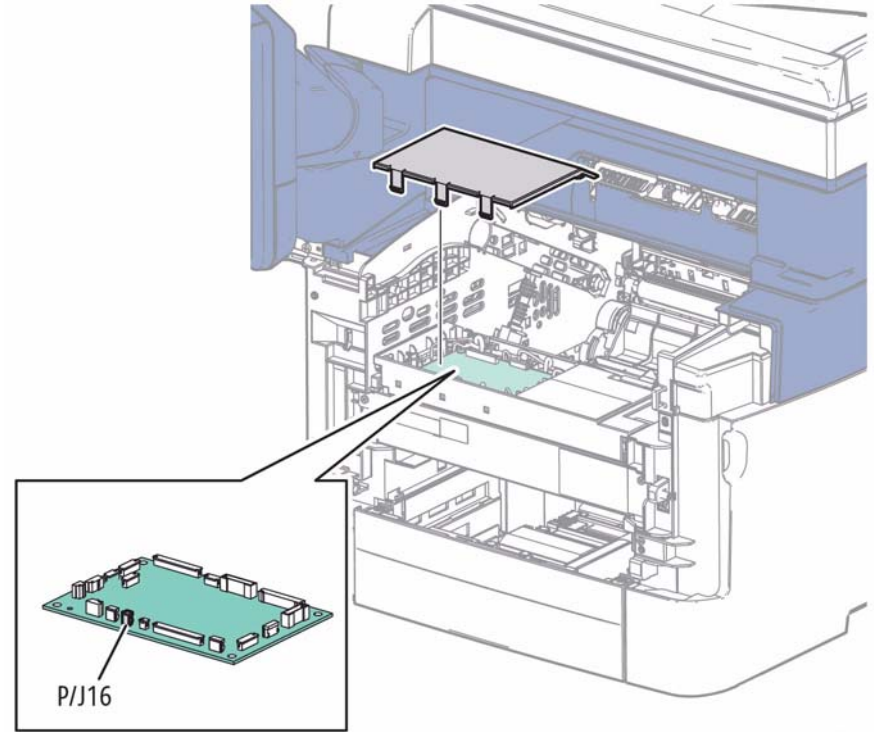

Figure 3 Disconnect the Exit Drive Assembly
12. Refer to Figure 3 to locate and release 3 hooks that secure the MCU Board cover to remove it from the chassis.